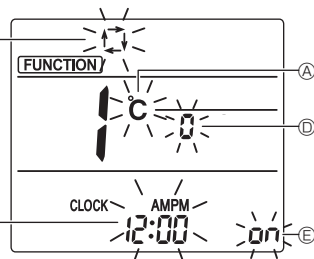

Fig. 6-6
3. Check that function No. "1" is displayed, and then press the **SET** button ③.
- The Screen display setting screen will be displayed. (Fig. 6-6)
- Press the **UP** button ④ to change the function No.
6.8.2. Changing the temperature unit (Fig. 6-6 A)
- Press the **TEMP** button ⑤.
- Each time the **TEMP** button ⑤ is pressed, the setting switches between **°C** and **°F**.
6.8.3. Changing the time display (Fig. 6-6 B)
- Press the **TIME** button ⑥.
- Each time the **TIME** button ⑥ is pressed, the setting switches between **12:00** and **24:00**.
6.8.4. Changing the AUTO mode (Fig. 6-6 C)
- Press the **MODE** button ⑦.
- Each time the **MODE** button ⑦ is pressed, the setting switches between **Auto** and **12:00**.
6.8.5. Changing the pair No. (Fig. 6-6 D)
- Press the **UP** button ④.
- Each time the **UP** button ④ is pressed, the pair No. 0-3 changes.